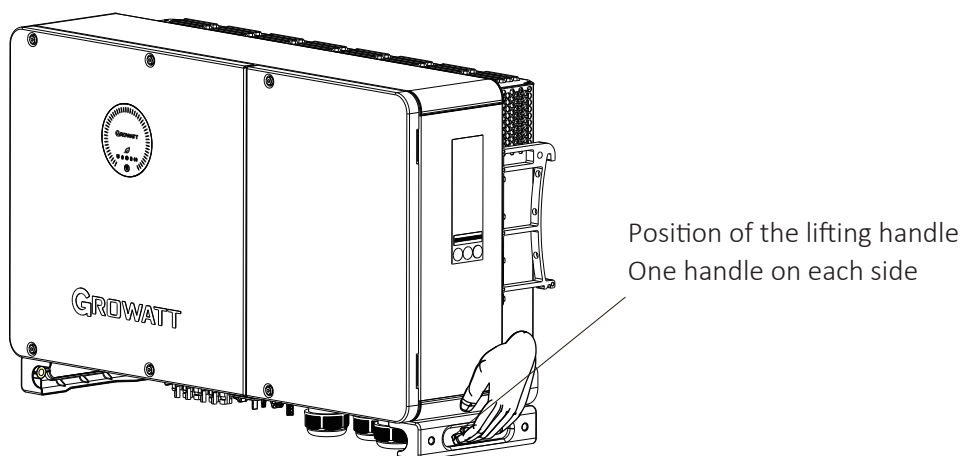

Fig 5.7
- 1> As shown in Fig 5.7, two persons are required to lift the inverter out of the package and transport it to the installation position.